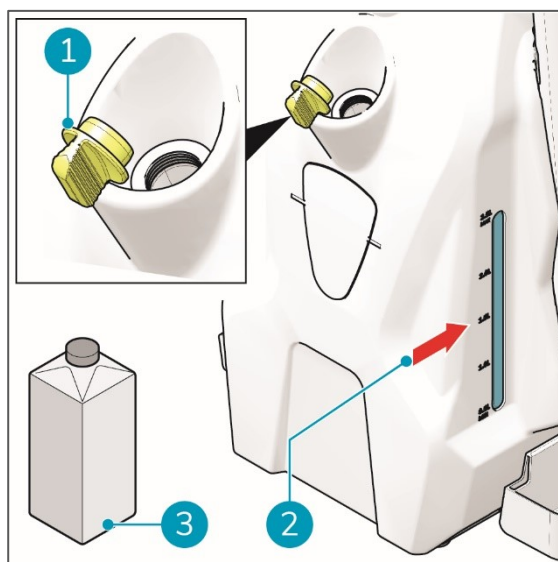

Figure 12
1. Remove the yellow stopper (fig 12, pos 1).
2. Pour in the i-gum[®] gum remover solution (fig 12, pos 3) while checking the fluid indicator (fig 12, pos 2) on the side.
3. Replace the yellow stopper (fig 12, pos 1) and make sure it seals tight.
4. Remove the yellow stopper from the fluid tank (fig 12, pos 1).
7. Replace the yellow stopper (fig 12, pos 1).